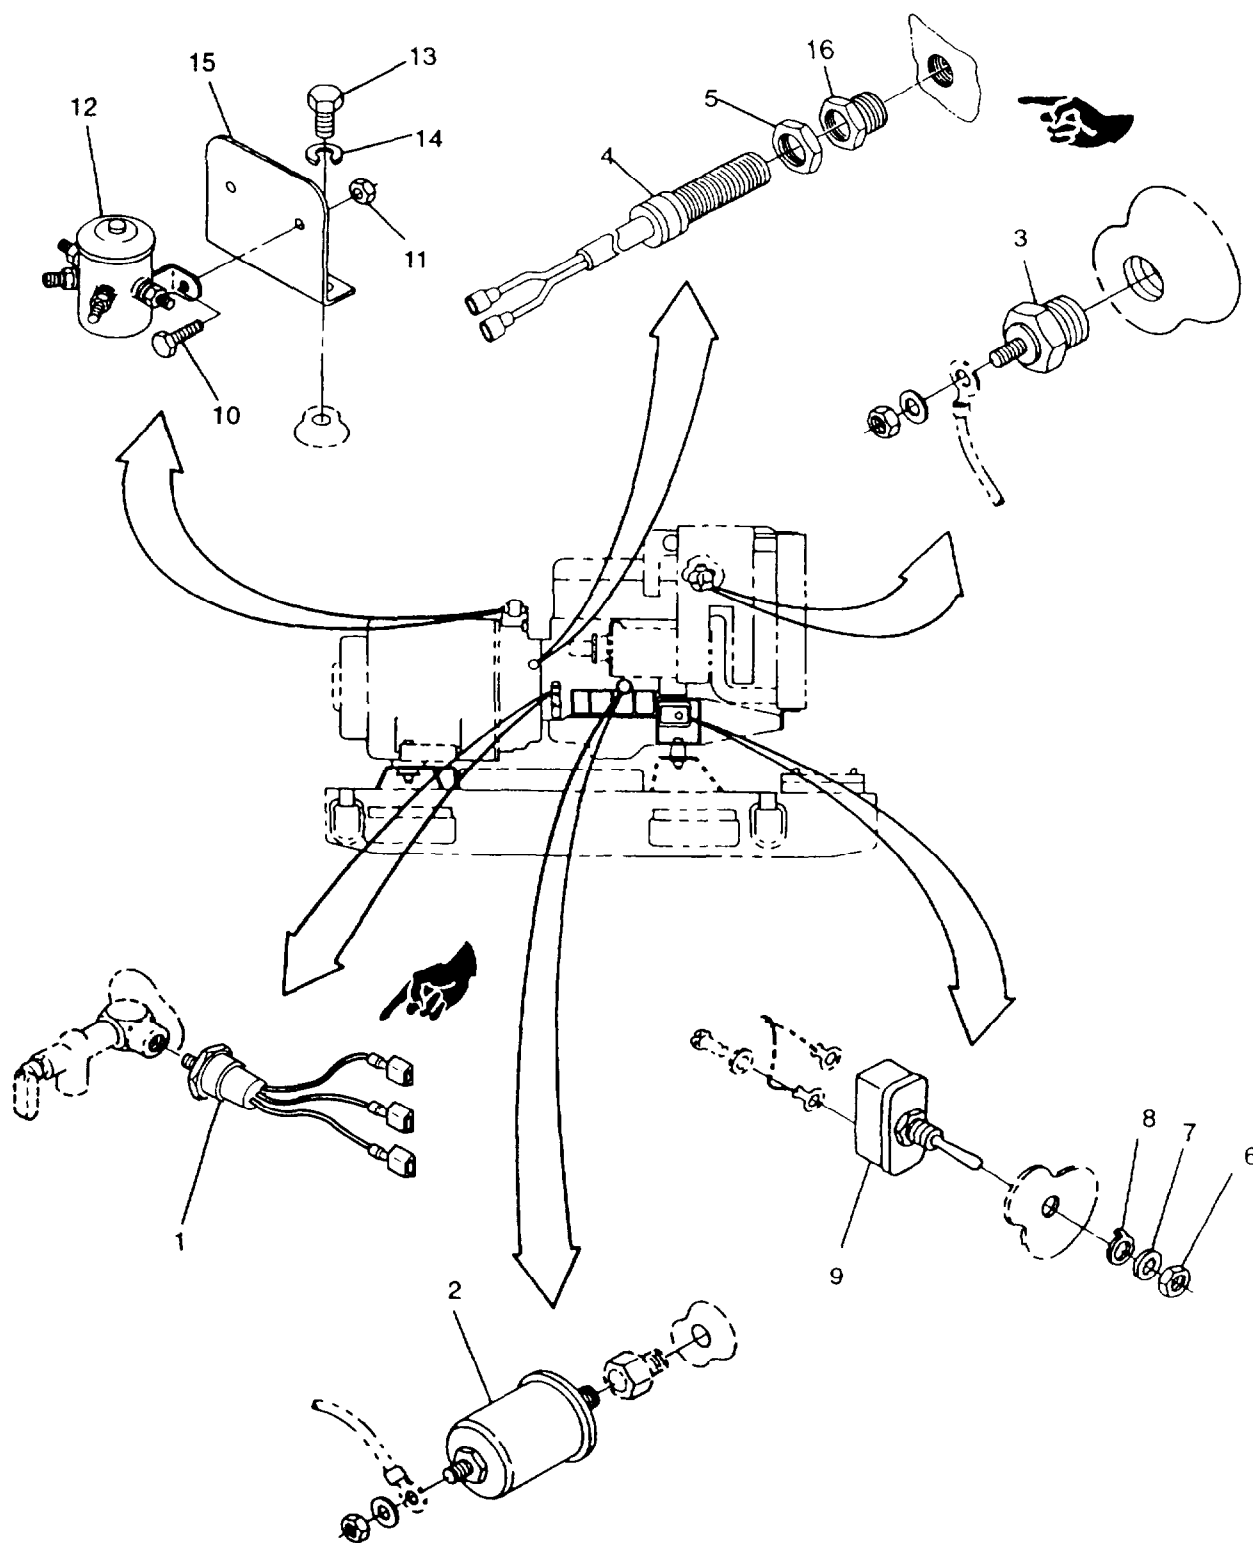

FIGURE 2-31. Engine Switches and Senders, Right Side
- d. Tag and disconnect electrical leads from low oil pressure switch (1, FIGURE 2-31).
- c. Open right side engine access door, tag and disconnect low oil pressure switch (1, FIGURE 2-31) electrical leads.
- d. Unscrew low oil pressure switch (1) from oil sample valve assembly.
- a. Install low oil pressure switch (1, FIGURE 2-31) into oil sample valve assembly.
- d. Disconnect electrical lead to oil pressure sender (2, FIGURE 2-31).
- c. Open right side engine access door and disconnect oil pressure sender (2, FIGURE 2-31) electrical lead.
- d. Unscrew oil pressure sender (2) from engine block.
- a. Screw oil pressure sender (2, FIGURE 2-31) into engine block.
- d. Disconnect electrical lead from coolant temperature sender (3, FIGURE 2-31).
- e. Open right side engine access door and disconnect coolant temperature sender (3, FIGURE 2-31) electrical lead.
- f. Unscrew temperature sender (3) from engine head.
- a. Install coolant temperature sender (3, FIGURE 2-31) in engine head.
- c. Open right side engine access door, tag and disconnect magnetic pickup (4, FIGURE 2-31) electrical leads.
- d. Loosen lock nut (5) and remove magnetic pickup (4) from flywheel housing. Remove bushing (16).
- a. Install bushing (16, FIGURE 2-31) into flywheel housing.
- b. Screw magnetic pickup (4) into flywheel housing until pickup bottoms out on top surface of gear tooth on flywheel. Back magnetic pickup out 1 turn and tighten lock nut (5).